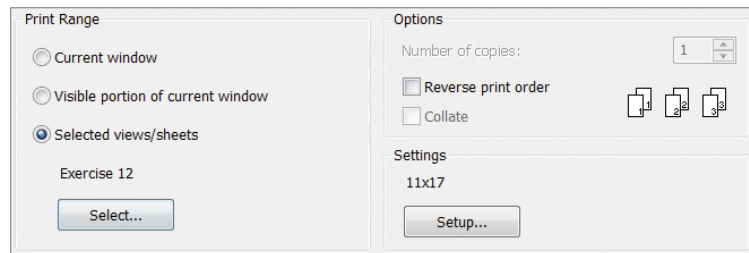

FIGURE 12.28 The Print Range, Options, and Settings properties
5. Click the Selected views/sheets option. Then click the Select button. This option allows you to choose multiple sheets or views to print at once. You cannot do a print preview, but you do end up saving time by batch printing (Figure 12.28).
9. Click the Setup button in the Settings group (refer back to Figure 12.28). The Print Setup dialog opens with options for print settings such as paper size, zoom, and orientation. You can also save these settings with a name so that you can reuse them later.